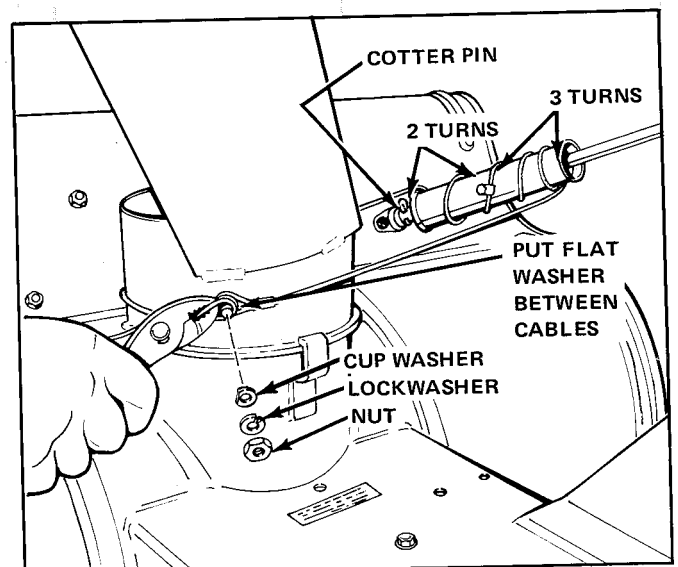

Figure 16. Installing Control Cable
6. With the spout extension facing slightly left, wind the cable around the control rod spool as shown in figure 16. Wind three turns on the rear part of the spool so that the cable leaves the spool on the lower edge as shown. Wind two turns on the front part of the spool so that the cable leaves the spool on the upper edge as shown.
- Place the looped end of the cable over the stud on the spout extension (see figure 16). Place the small flat washer provided on the stud. Pull the other end of the cable around the stud as shown with a pliers. While holding the cable tight, install the cup washer (facing inward), lockwasher and nut to hold the cable. Tape any loose cable neatly to the taut cable.